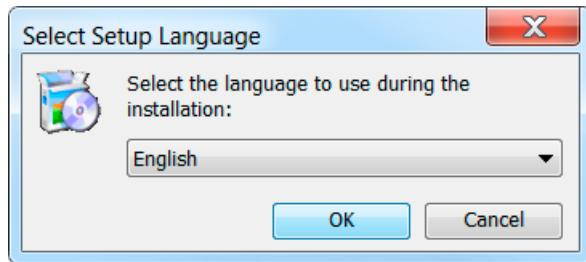

Figure 4-1. Select Language for Software
4. From the drop-down menu shown in Figure 4-1, select the language in which to display the software and click **OK**.